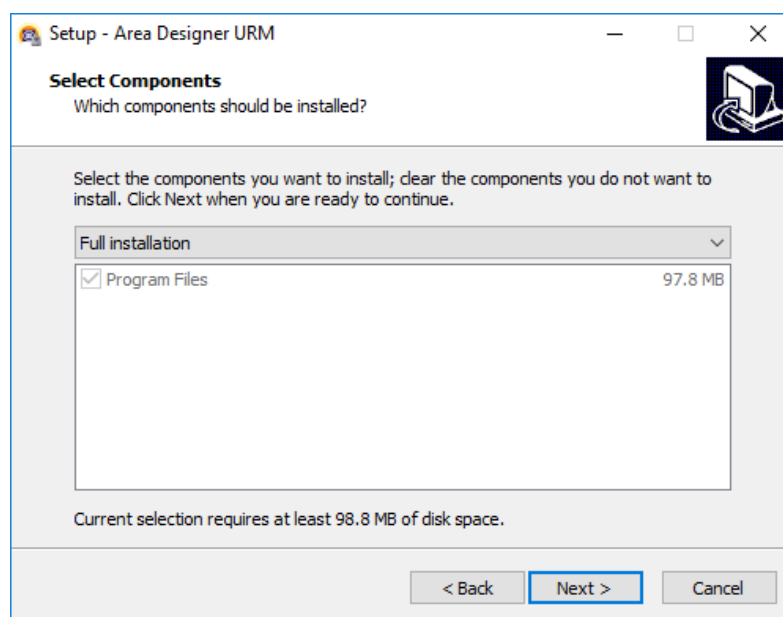

Figure 2-3 Select the component
5. As shown in figure 2-3, click “next” then select the program group “Area Designer”.